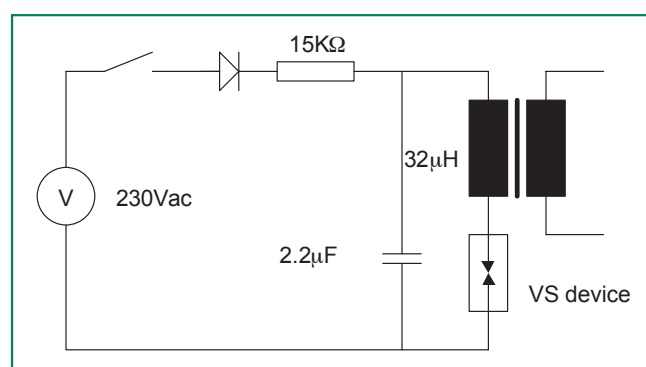

Fig 2. Recommended Life Test Circuit
- (2) Measured @ 300 Volts DC
- (3) Current required for transition to on-state
- (4) Measured @ 1 MHz, zero Volt bias
- (5) Using 8/20μs double exponential pulse
- (6) Measured on recommended test circuit (fig 2.)